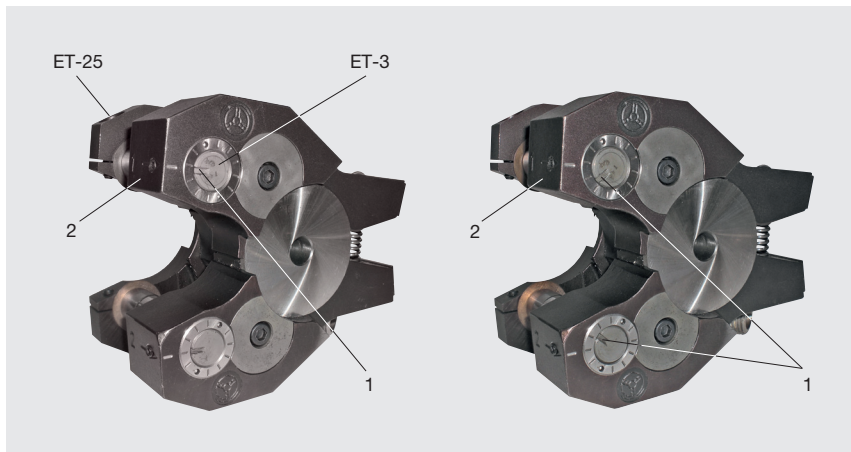

Figure 23: Correcting the axis inclination
- It is now possible to slightly pull out and turn the roll axis (3).
The roll axes are marked on the gear unit arm side with a slot (1). This points to the marking (2) on the rolling head arm (see Figure 23-left) in the zero position. To increase the workpiece pitch diameter on the narrow arm side, turn the slot of both axes by the same amount against each other to the inner side of the rolling head, as depicted in Figure 23-right. To reduce the workpiece pitch diameter on the narrow arm side, turn the markings outward.